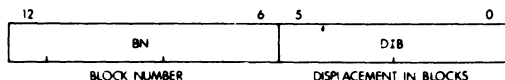

Figure 10-8 Displacement Field of Virtual Address
- The displacement field (DF) — This 13-bit field contains an address relative to the beginning of a page. This permits page lengths up to 4K words ( $2^{13} = 8$  KB). The DF is further subdivided into two fields. The displacement field of the virtual address is illustrated in Figure 10-8.